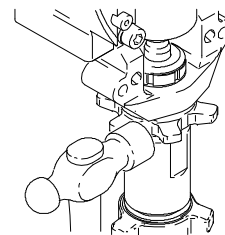

Fig. 20
3. Fig. 20. Screw jam nut down onto pump until nut stops. Screw pump up into bearing housing until it is stopped by jam nut. Back off pump and jam nut to align pump outlet to back. Tighten jam nut by hand, then tap 1/8 to 1/4 turn with a 20 oz hammer to approximately 75 ± 5 ft-lb (102 N_m).